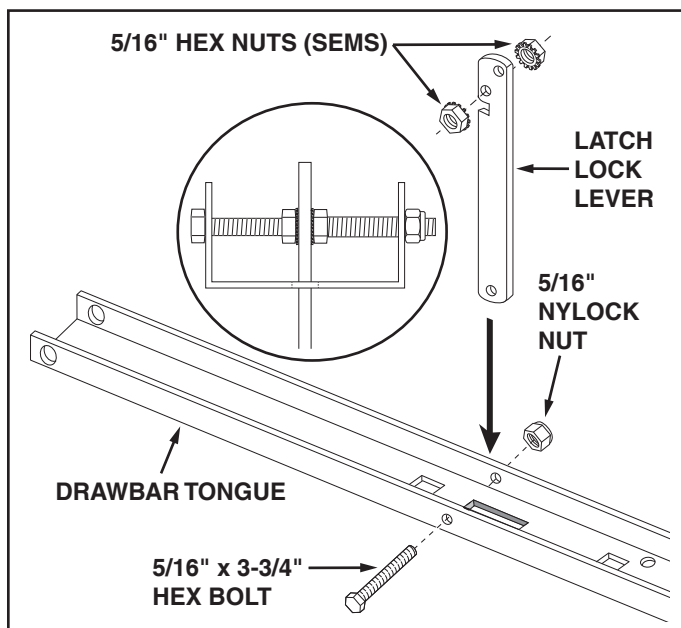

FIGURE 1
3. Place the latch lock lever through the slot in the draw bar tongue. Assemble the 5/16" x 3-3/4" hex bolt through the tongue, lever and two 5/16" hex nuts (SEMS) (one on each side of the lever). Assemble a 5/16" nylock nut onto the end of the bolt and **tighten** so that the bolt can still rotate freely. **Tighten** the two 5/16" nylock nuts against the sides of the latch lock lever so that the lever is centered in the slot. See figure 1.